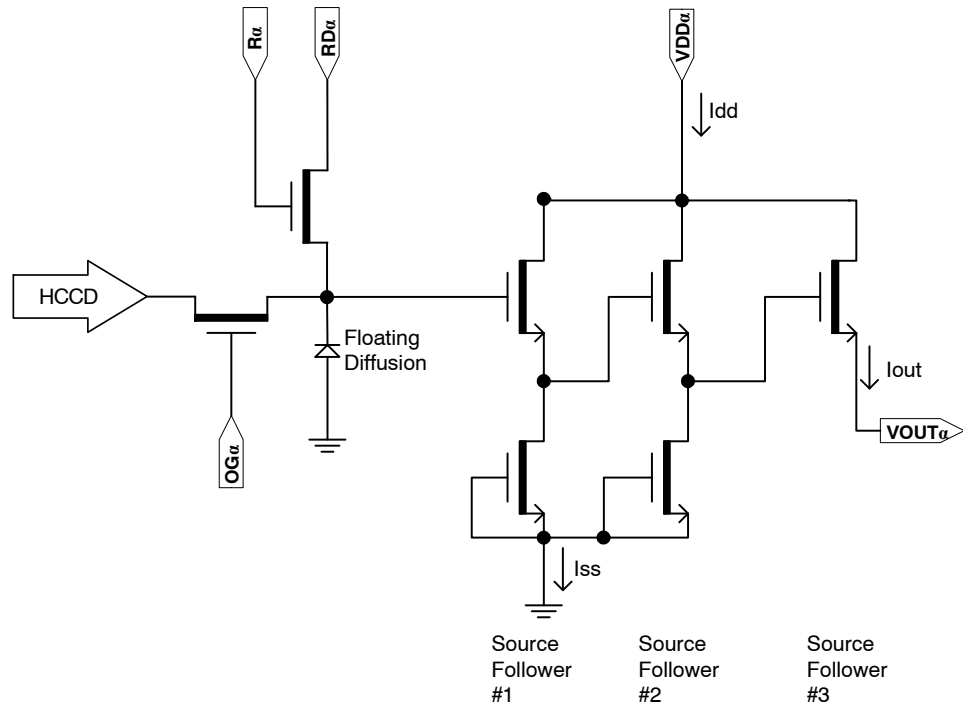

Figure 20. Output Amplifier
2. The maximum DC current is for one output. I_{dd} = I_{out} + I_{ss}. See Figure 20.